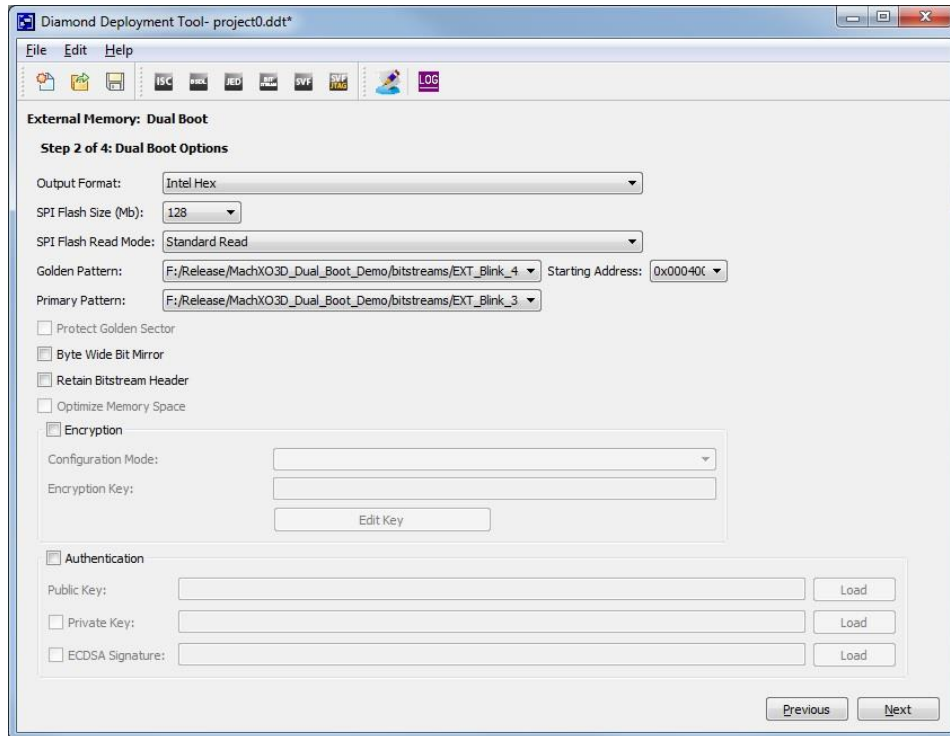

Figure 4.8. Dual Boot Options
- As shown in Figure 4.8, choose **Intel Hex** as the **Output Format**, **128** for **SPI Flash Size (Mb)**, **EXT_Blink_4.bit** as the **Golden Pattern**, **EXT_Blink_3.bit** as the **Primary Pattern**, and with **Starting Address** from **0x00040000** to **0x00FA0000** per system requirements. The default is **0x00040000**.